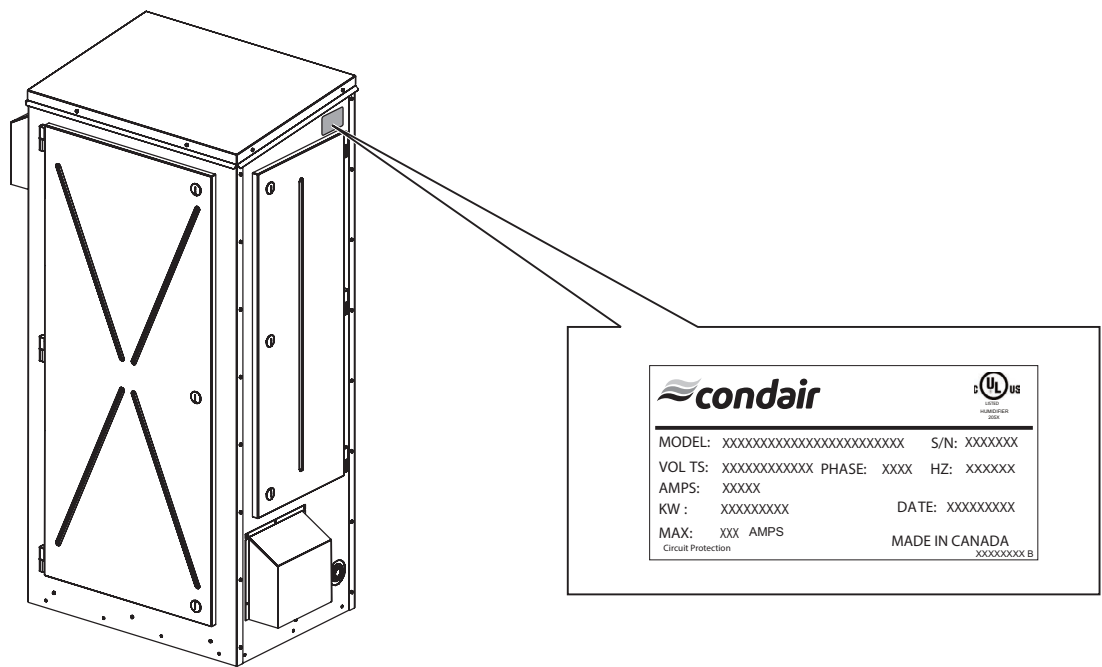

Figure 3: Condair EL/RS Outdoor Steam Humidifier Specification Label
- Verify the model type, capacity and voltage on the specification label to ensure that it is suitable for your installation site. Refer to Figure 3 on page 12.
The specification label on the side of the Condair EL/RS Outdoor humidifier shows its model number, serial number and ratings – refer to Figure 3. The breakdown of the model number is shown in Figure 4.